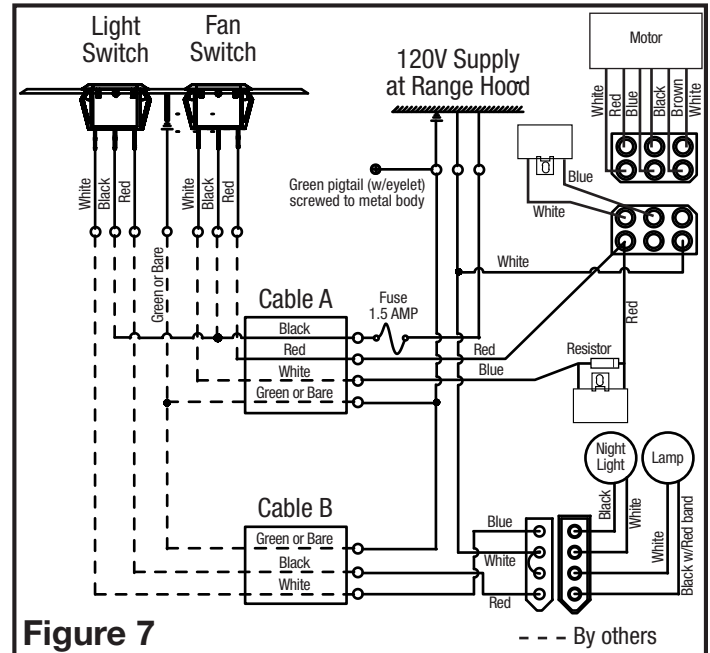

Figure 7
4. **Connections at the range hood (Figure 7):**
5. **Connections at the switch box (Figure 7):**